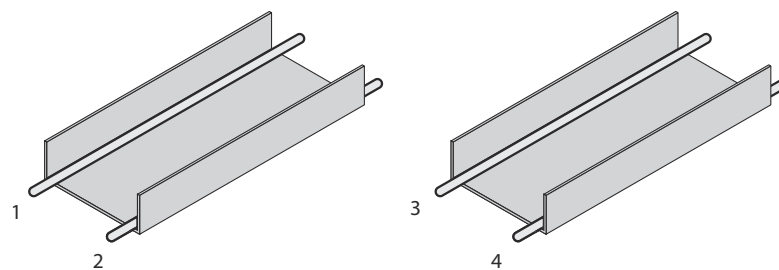
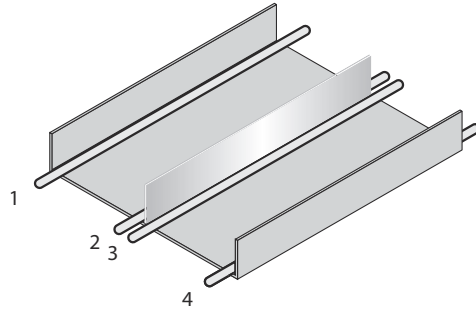

Figure 17: Ideal laying – Place cables in different cable channels
Figure 18: Alternative laying – Separate cables with metallic separators
- ▶ Route the cables in groups 1, 2 and 3, 4 in different cable channels or use metallic separators (see figure 17 and figure 18). This applies particularly if cables of devices with a high level of radiated emission, such as frequency converters, are laid parallel to device cables.